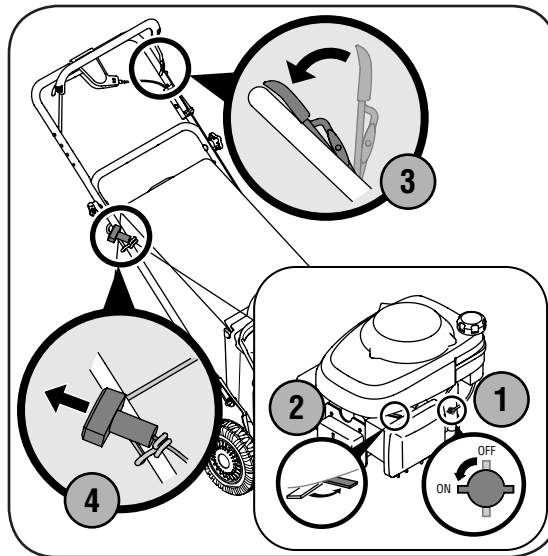

Figure 4-2: The steps involved in starting the mower.
1. Place the fuel valve lever found on the left side of the engine into the ON position. See Figure 4-2.
2. Move the choke lever (if equipped) all the way backward into the choke position. See Figure 4-2.
3. Standing behind the mower, squeeze the blade control against upper handle. See Figure 4-2. The choke will now begin to slowly return to the off choke position after activating the blade control. Therefore, quickly move onto step four below. Refer to the engine manual for further details.
4. Holding these two handles together firmly, grasp recoil starter handle and pull rope out with a rapid, continuous, full arm stroke. See Figure 4-2. Keeping a firm grip on the starter handle, let the rope rewind slowly. Repeat until engine cranks. Let the rope rewind each time slowly.